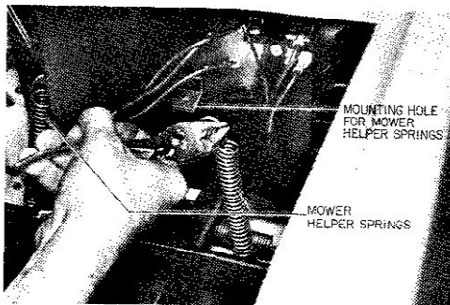

FIG. 18. Mower Spring Installation
8. Lift the mower with the manual lift. Remove the mower helper spring attached to the seat support through the rear compartment. (See Fig. 18). Attach the lower end to the hole in the rear of the mower deck support directly in back of the rear suspension arm lift pins. Stretch the spring and refasten it to the seat support from which it was removed. Install the second spring on the opposite side in the same way. If the batteries are in place, attach the upper end of the spring next to the seat support and stretch the spring from under the rider to fit into the mower deck support hole.